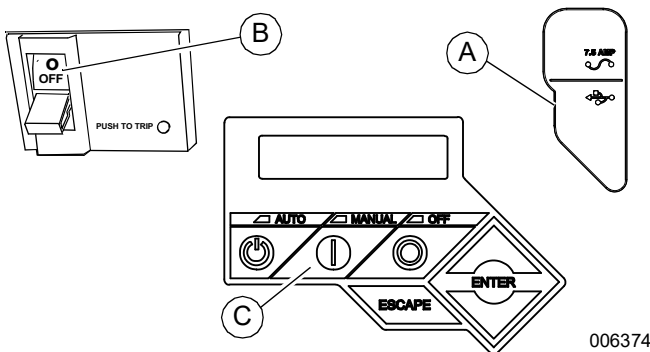
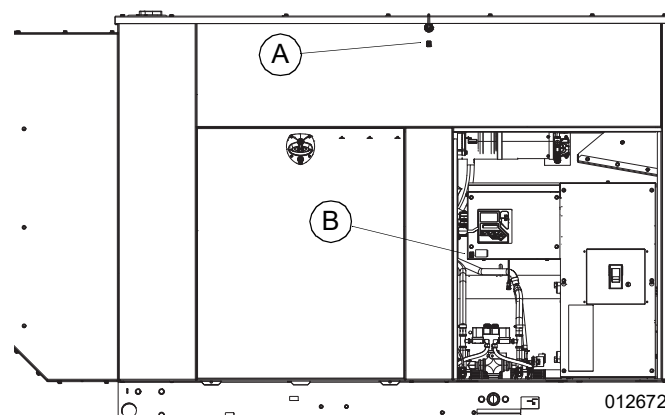

Figure 3-3. Generator Control Panel
Figure 3-4. Auxiliary Shutdown Switches
1. See Figure 3-3. Pull up rubber flap covering fuse holder and verify installation of 7.5 amp fuse (A).
2. Set the main line circuit breaker (MLCB) (generator disconnect) to OFF (OPEN) (B).
3. Verify both auxiliary shutdown switches are ON (I). See Figure 3-4 for locations.
4. Press MANUAL on control panel (C) to start engine. A blue LED illuminates to verify system is in MANUAL.
See Figure 3-4. Generators 15 kW and larger are equipped with two auxiliary shutdown switches. One auxiliary shutdown switch (A) is located on the left side of the generator on the top center panel. The second auxiliary shutdown switch (B) is inside the enclosure on the bottom left corner of the control panel.
See Figure 4-1. The control panel is located behind the viewing window at the rear of the unit. See Figure 3-3 and Figure 3-4.